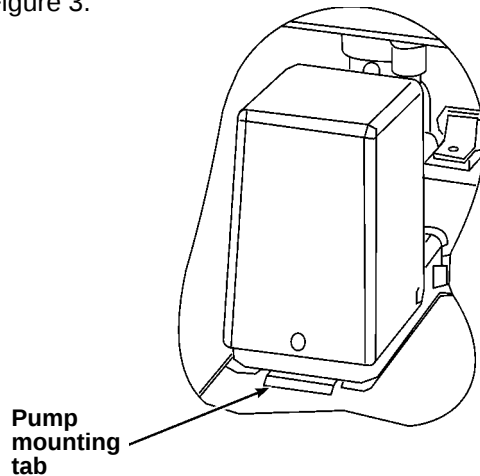

Figure 3
9. Install drain pump. Carefully slide in aligning the tab on pump to rectangular slot in the unit base. You may need to tip the pump downward in the front to slip in the slot. See Figure 3.